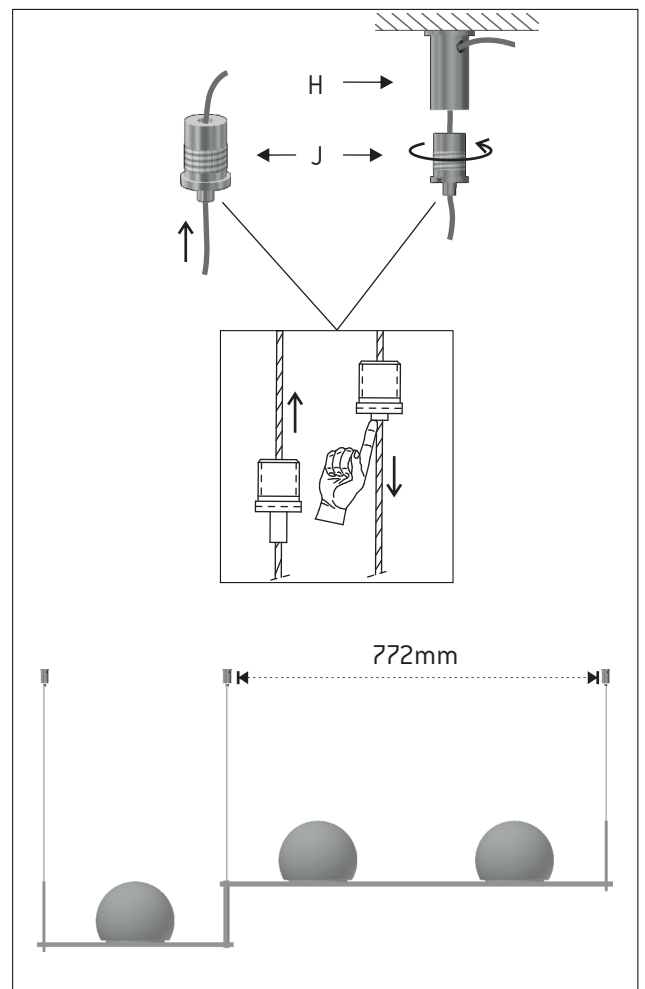

Figure 8
8 - Insert the steel cables into the gripper supports (J) and then insert them through the side hole of the tensors (H). Again screw the gripper support to the tensor and adjust the cable to the desired length. Figure 8